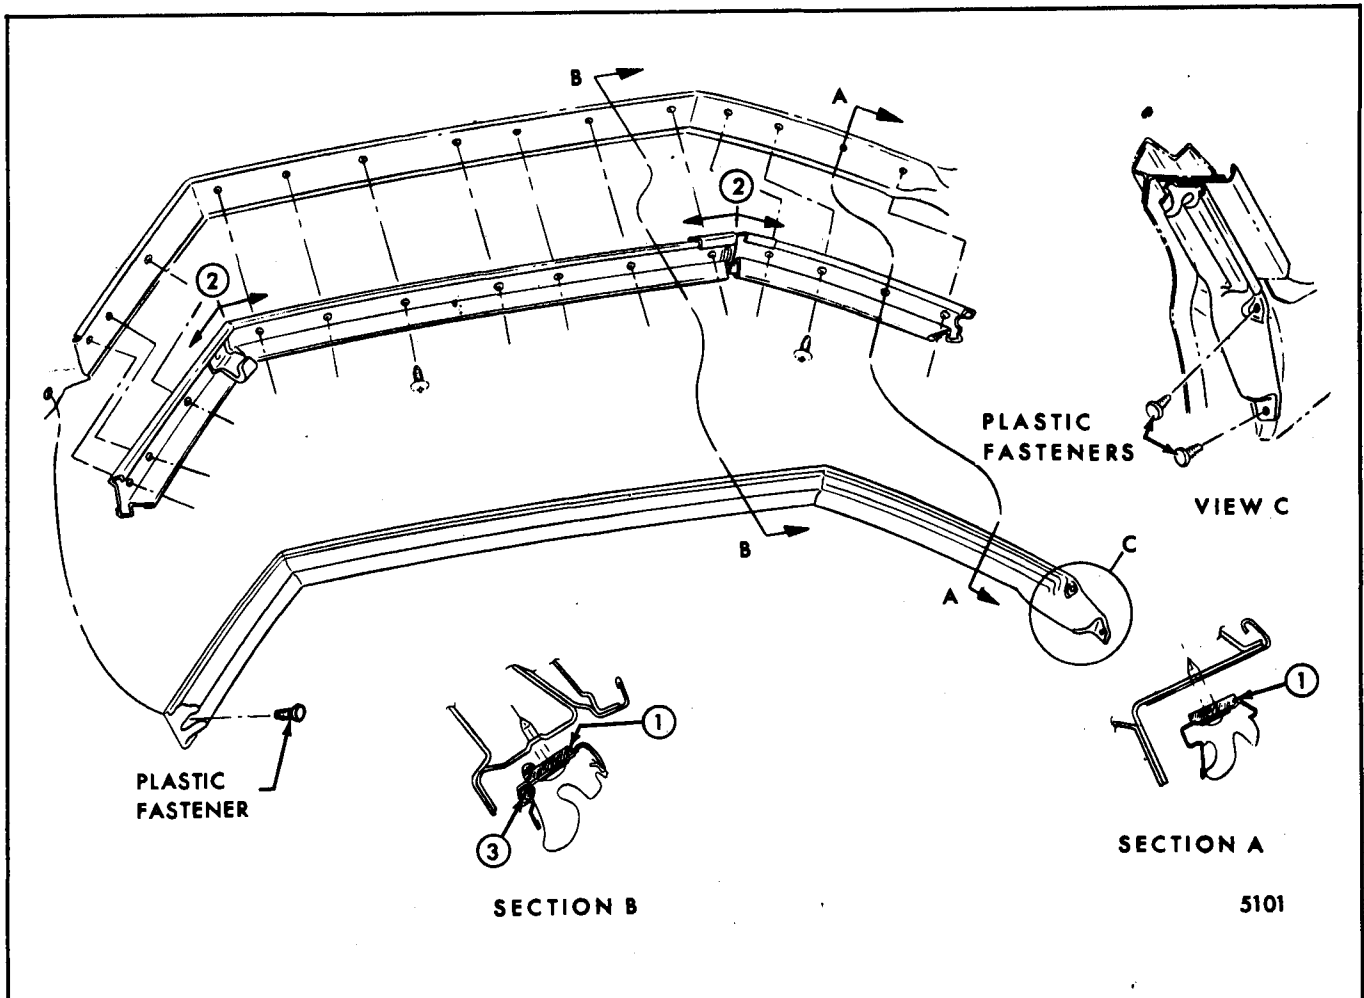
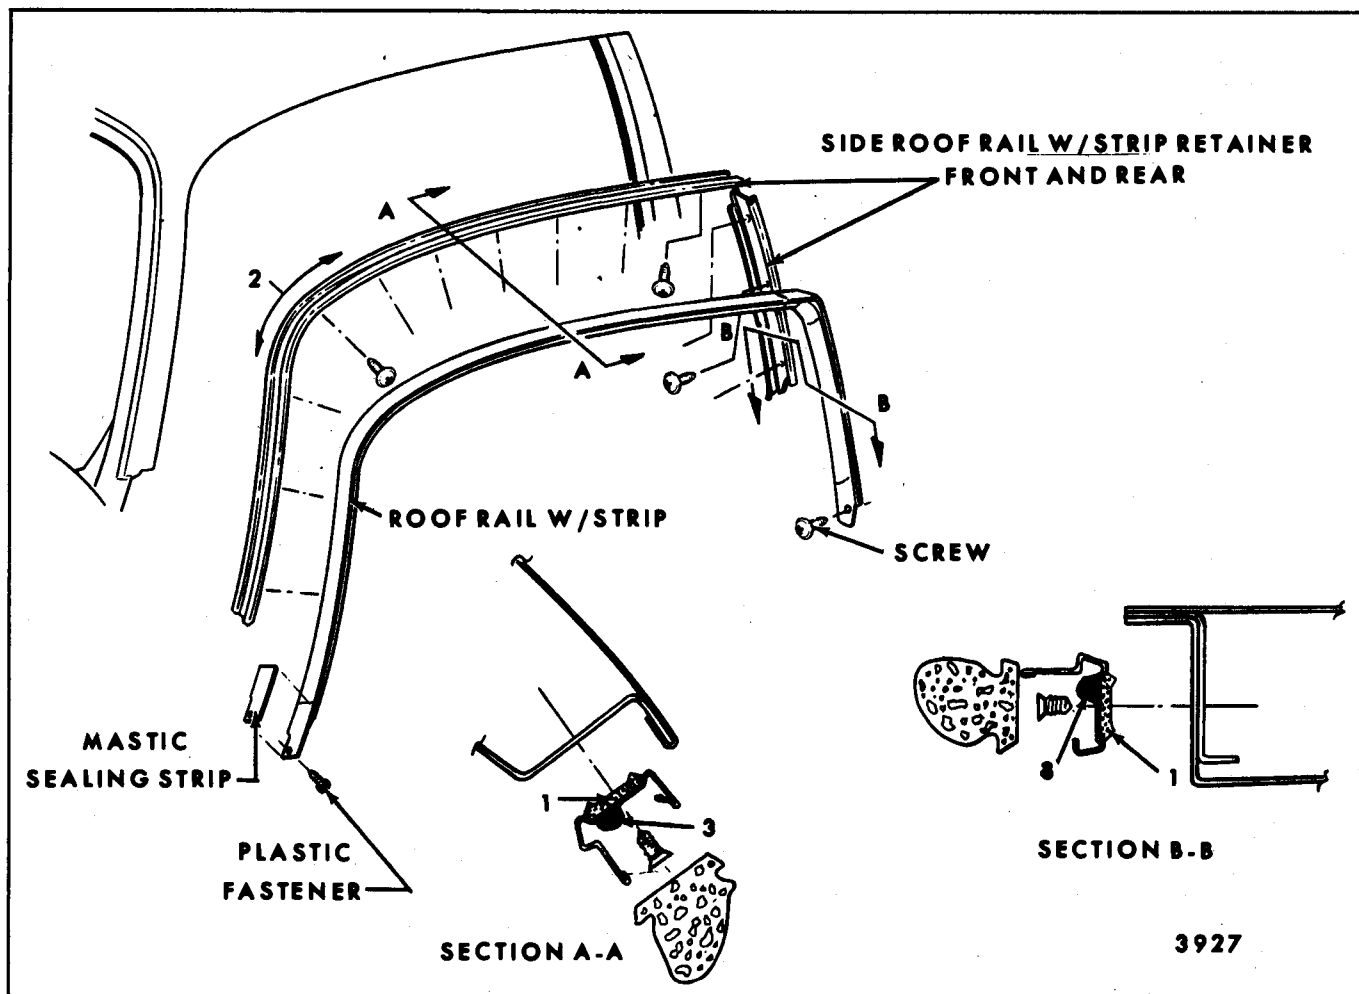

Fig. 6-9-Side Roof Rail Weatherstrip and Weatherstrip Retainer - Typical All Styles, Except "F" Styles ("A-39" Styles Shown, Other Styles Similar)
Fig. 6-10-Side Roof Rail Weatherstrip and Weatherstrip Retainer - "F" Styles
The side roof rail weatherstrip is sealed to a side roof rail weatherstrip retainer, (front and rear) which, in turn is secured with plastic fasteners at the front and rear edges, except "F" styles which are retained by screws at the rear edge. The sealer that retains the weatherstrip also protects against air noise and water entry between the retainer and weatherstrip. An integral section of closed cell nitrile foam material bonded to the weatherstrip retainers during retainer manufacture prevents water entry between the retainer and side roof rail or body lock pillar above belt. (Item 1, Figure 6-10).
weatherstrip (Fig. 6-9 is typical of all styles at front hinge pillar) with tool J-21104 or equivalent.
2. On all "39, 49 and 69" styles, open rear door and remove plastic fastener securing rear end of side roof rail weatherstrip to rear door lock pillar (Fig. 6-9). On "F" styles, remove screw retaining weatherstrip to rear body lock pillar (Fig. 6-10).
4. With weatherstrip removed, screws securing weatherstrip retainer to side roof rail are exposed. Mark position of retainer on rail or pillar and remove screws from retainer (Figures 6-9 and 6-10).
2. Apply a continuous bead of a "pumpable" type body caulking compound 4" rearward and 4" down from front upper corner of retainer that mates with side roof rail ("2", Figs. 6-9 and 6-10). Apply bead outboard of attaching screw holes.
4. Apply a continuous bead of "pumpable" sealer to inboard flange of weatherstrip retainer ("3", Figs. 6-9 and 6-10). Then, apply black weatherstrip adhesive or pre-cut mastic sealing strips (available as a service part) to the front and rear end details of the side roof rail weatherstrip.
5. Position front end of weatherstrip to body and install plastic fasteners. Then, using a flat-bladed tool, engage weatherstrip with retainer, inboard lip first, then, outboard lip (refer to Sections "A-A" and "B-B", Figures 6-9 and 6-10).
NOTE: Major retainer adjustments will require resealing retainer to body at front upper corner of retainer as described in Step 2 of weatherstrip installation procedure ("2" of Figures 6-9 and 6-10).